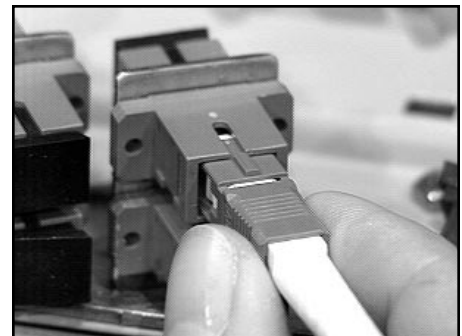

Fig. I4
- A. Hold the connector by the housing. Align the key on the connector housing with the slot of the coupling (Fig. I4) and push into place with a positive click. (The white line or slot in the housing will not be visible when fully latched).